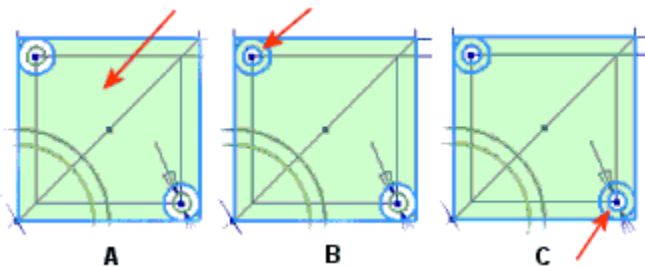

Figure 23: Three profile selections.
2. Click inside the rectangle. The profile shown in image A of Figure 23 is selected.
3. Click between the two small circles in the top-left corner (see Figure 23-B).
4. Click between the other two small circles (see Figure 23-C).